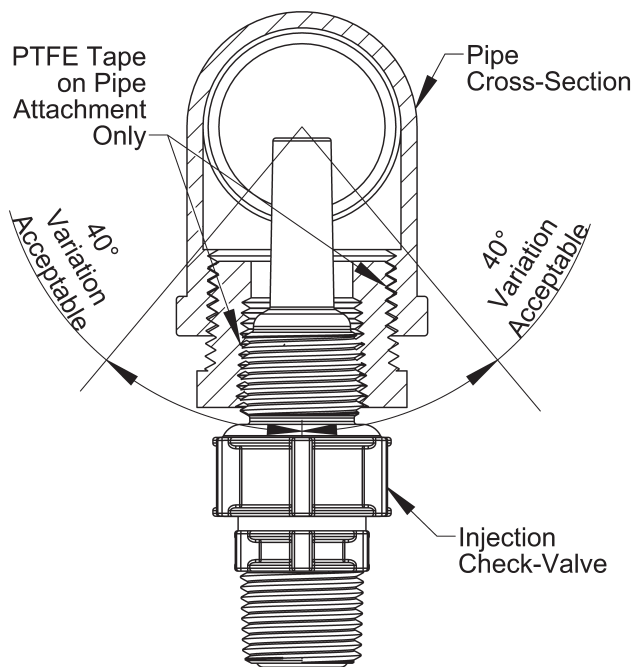

FIGURE 1
A. INSTALLING INJECTION CHECK VALVE (FIGURE 1)